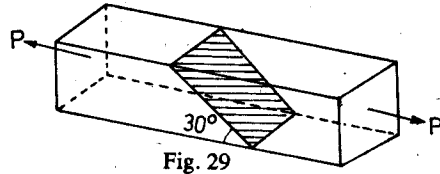

Fig. 29
67. Two pieces of steel are solidly welded along a plane inclined at 30° as shown in Fig. 29 to form a rectangular bar of cross-section 25 cm^2 . If the normal stress and shearing stress are not to exceed 500 kg/cm^2 and 250 kg/cm^2 , respectively, the maximum safe load that can be carried by bar is